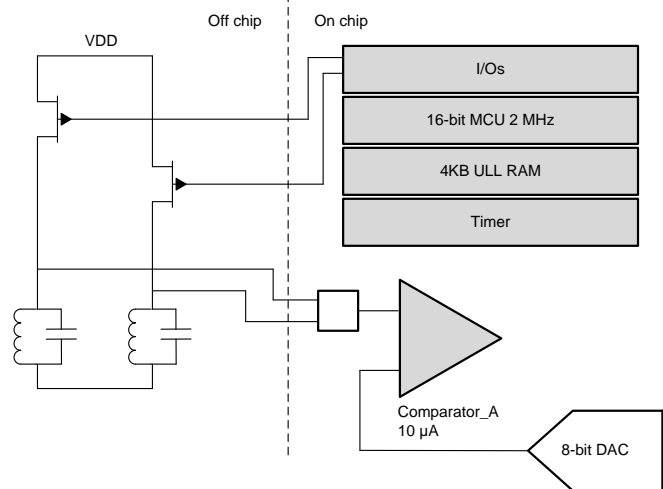

**Figure 3. Capacitive Touch Principle (Simplified)**
**Capacitive Touch:** The sensor controller can also perform more advanced tasks (for example, a complete capacitive touch button solution), which enables low-cost and low-power user interfaces. Figure 3 shows the main components in this solution, the programmable current source and the time-to-digital converter (TDC). The multiplier is used in digital filtering for improved operation in noisy environments. A complete solution with a 33-Hz sampling of two buttons is only drawing 9  $\mu\text{A}$ . Much lower current consumption is possible if less noise immunity and slower sampling is acceptable for the application.